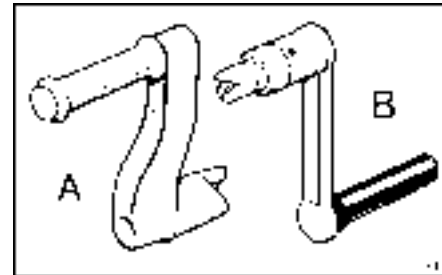

Figure 2.2.1 Starting Handles
Insert the correct handle, refer to 'A' in 'Figure 2.2.1 Starting Handles', into the starting housing.
Swivel the starting handle housing cover (C) to one side, lift the spring loaded plunger (D), if fitted, and insert the correct handle, refer to 'B' in 'Figure 2.2.1 Starting Handles', into the housing.